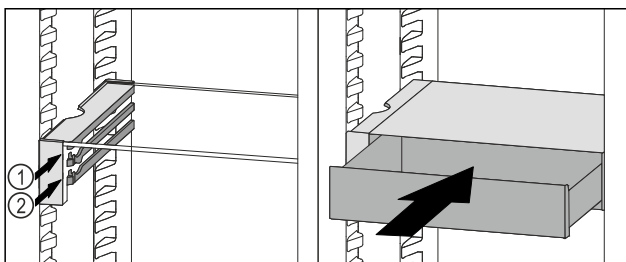

Fig. 129
- Place the VarioSafe drawer behind the stoppers on desired rib Fig. 129 (1) or Fig. 129 (2).